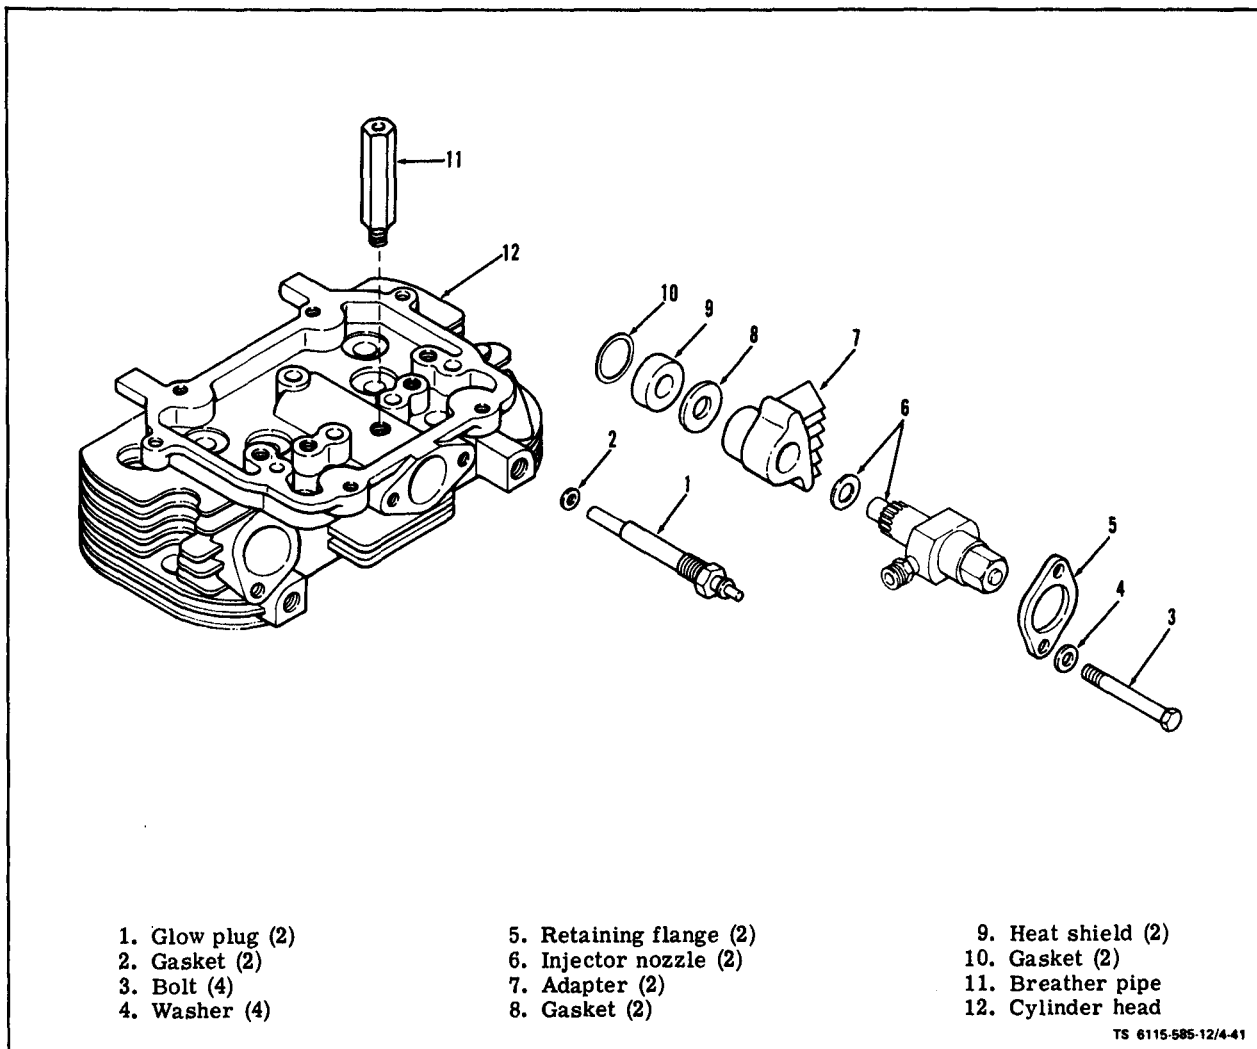

Figure 4-41. Cylinder Head Assembly
a. Inspection. Inspect breather tube (11, figure 4-41) for clogging every 500 hours. Clean out opening in breather tube with small wire if obstructed.
(1) Injector Nozzle Assembly (see figure 4-41). Inspect for leaking fuel. Inspect fuel fittings for tightness.
(2) Fuel Lines. Inspect fuel lines for leaks and damage to fittings.
a. Inspect (see figure 4-41). Inspect glow plugs for physical damage. Check that electrical lead to glow plug is clean and tight. Check for leakage where the glow plug enters cylinder head.
d. Install. If gasket (2, figure 4-41) has been removed, place new gasket over glow plug. Coat plug threads with anti-seize compound and screw glow plug into cylinder head. Tighten glow plug 10 to 15 ft-lb, dry. Attach electrical lead to plug. On ASK equipped generators, install top panel (para. 5-4).